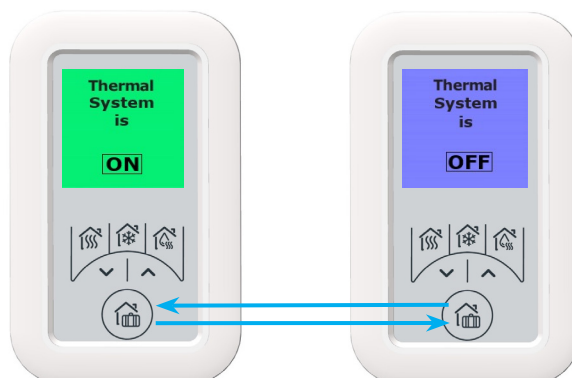

Figure 3: Thermal System On/Off
- Use the down arrow to show OFF, then press the Home Button to apply the change entering thermal system off. Screen shown in Figure 3.
- To turn thermal system on, press the Home Button so that it displays the green screen shown in Figure 3.